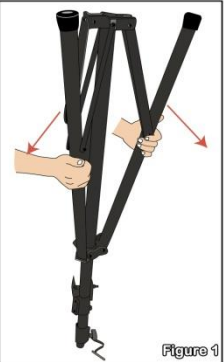
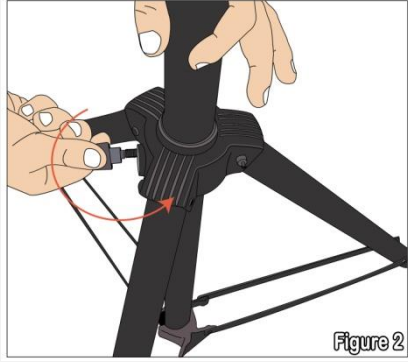

Figure 1
Figure 2
Step 1 – Take the stand and turn it upside down to have more leverage in spreading the legs. Spread the legs approximately 36" (91.5cm) apart. (See **Figure 1**) Turn the knob tight near the base to secure the legs. (See **Figure 2**)